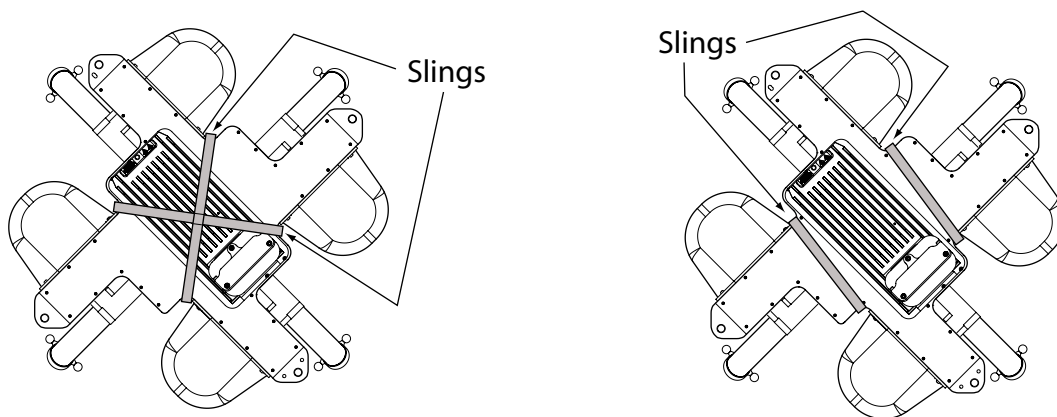

Figure 3-4. Location of Slings for Lifting Robot Base
NOTE: Since eyebolts would be in the way of this mounting method, you will have to use slings or other means to lift the robot base. Nylon slings can be wrapped across the center of the robot base, away from the inner arms. See **Figure 3-4.**
2. Wrap slings around the robot base. See **Figure 3-4** for two methods.